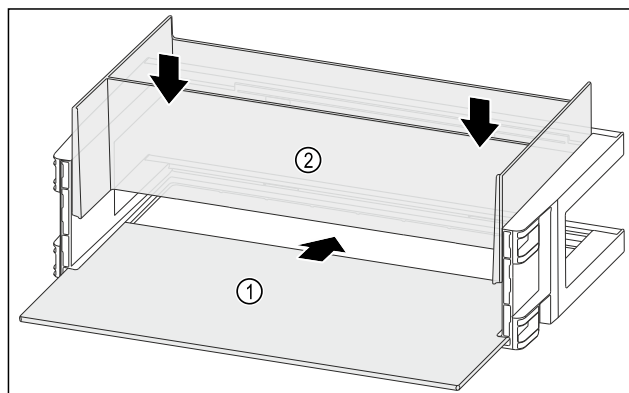

Fig. 146
- Push the shelf Fig. 146 (1) into the side recesses.
- Insert the organizer Fig. 146 (2).